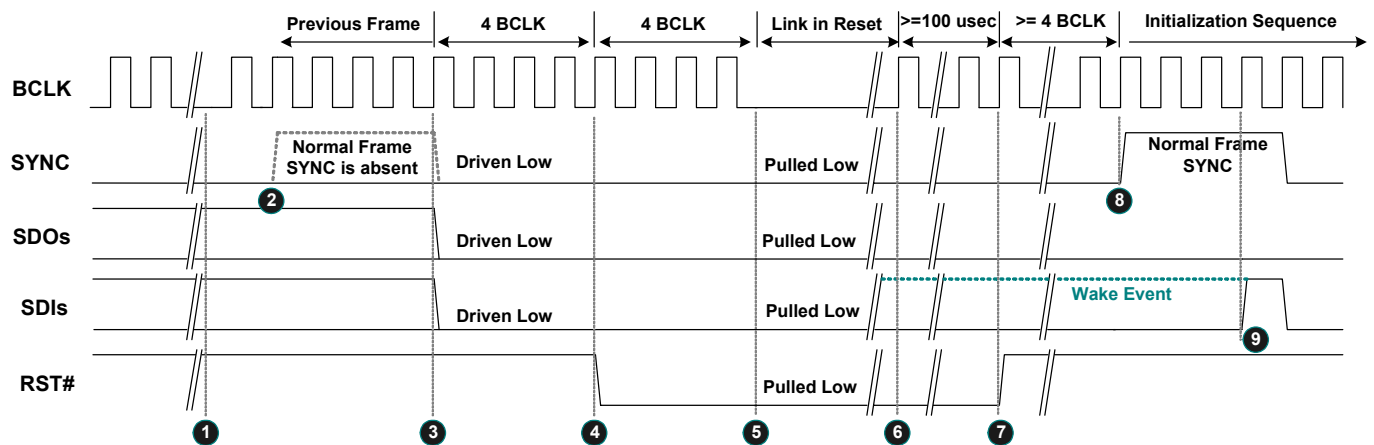

Figure 12. Link Reset Timing
3. Software initiates power management sequences. Figure 12, page 19, shows the ‘Link Reset’ timing including the ‘Enter’ sequence (❶~❺) and ‘Exit’ sequence (❻~❸)